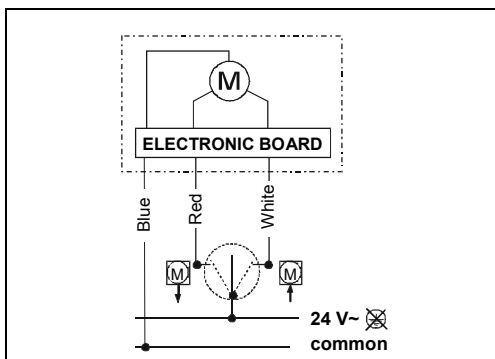
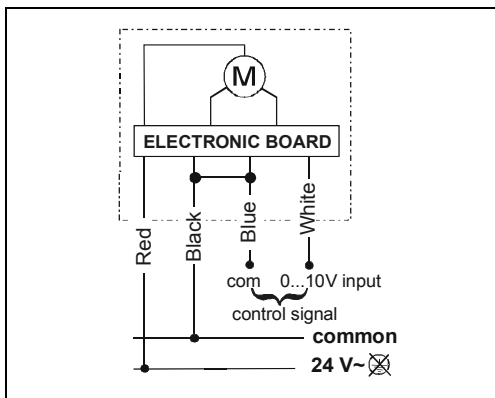

Figure 4: Wiring Diagrams (Incremental model)
Figure 4b: Wiring Diagrams (Proportional model)
**Wiring Diagrams (Figure 4 e Figure 4b)**